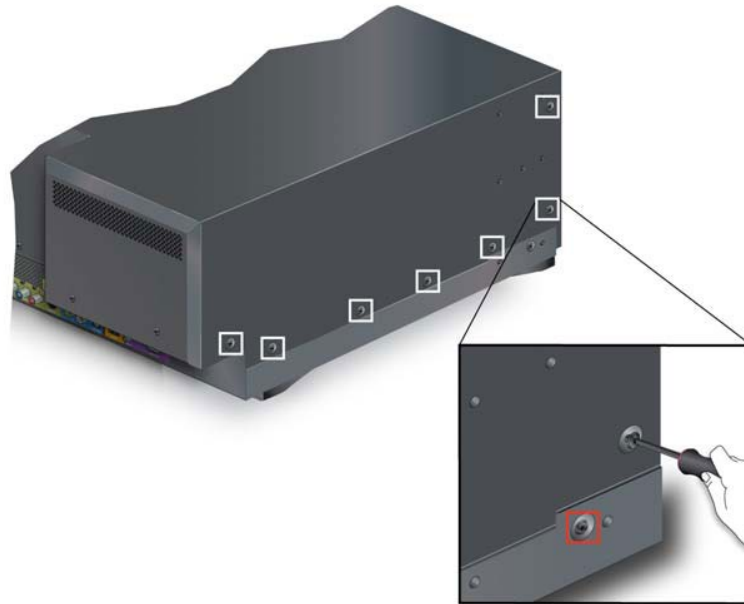

Figure 4
6. Remove 7 screws from the longer side. **Do not remove the screw marked in red.** See Figure 4.